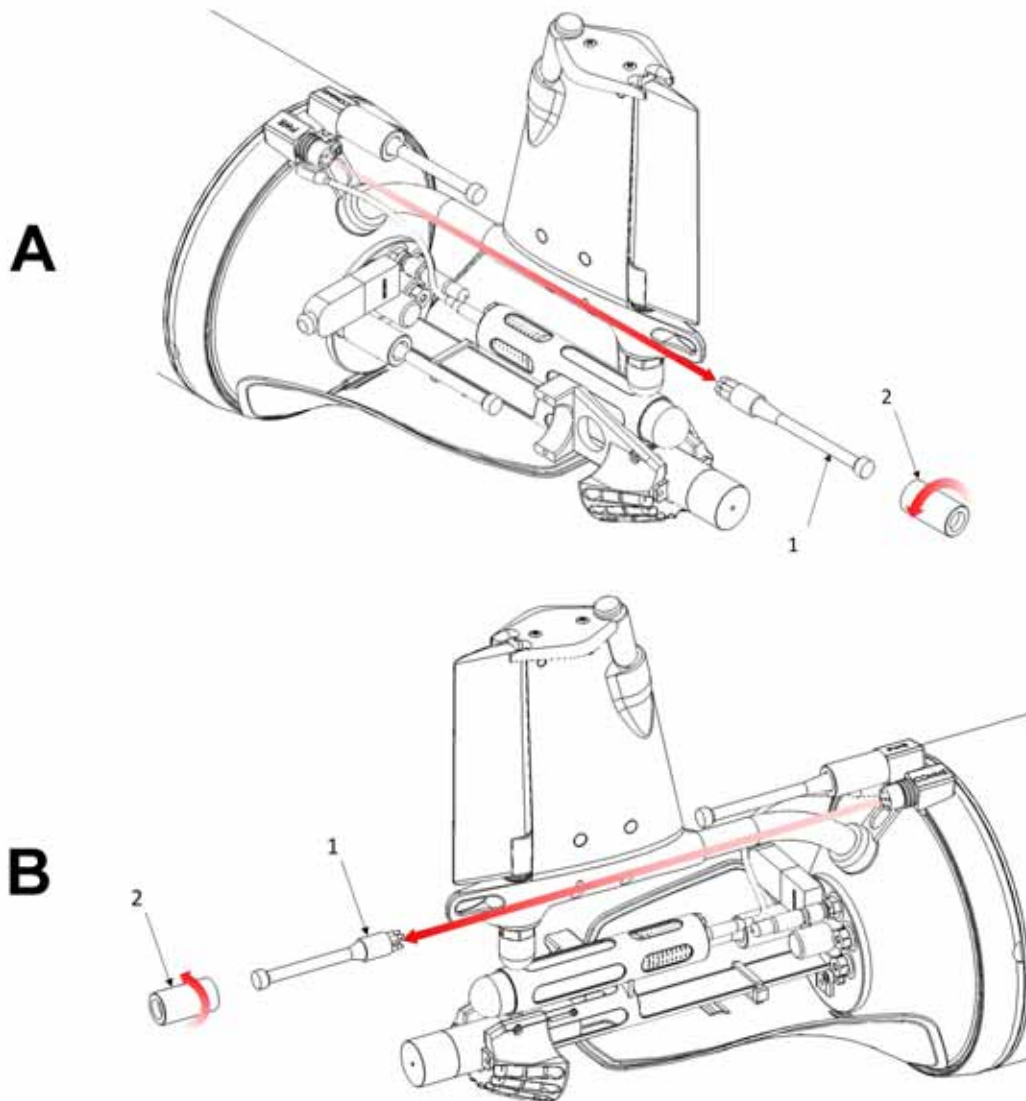

Figure 2-22 Stop plug (red), Go plug (green) and Comms. plug.
1. Unscrew the shell (Figure 2-22 A, Item 2) that holds in the Stop Plug (Red) or the Go Plug (Green).
2. Pull firmly on the Stop Plug (Red) or the Go Plug (Green) (Figure 2-22 A, Item 1).
1. Before installing the Stop plug (red) or the Go plug (green) (Figure 2-22 A, Item 1), ensure that the pins are not bent.
3. Screw in the shell (Figure 2-22 A, Item 2) that holds in the Stop Plug (Red) or the Go Plug (Green).
1. Unscrew the shell (Figure 2-22 B, Item 2) that holds in the direct comms dummy plug.
2. Pull firmly on the direct comms plug dummy (Figure 2-22 B, Item 1).
1. Before installing the direct comms plug or direct comms dummy plug (Figure 2-22 B, Item 1) ensure that the pins are not bent.
3. Screw in the shell (Figure 2-22 B, Item 2) that holds in the direct comms plug or direct comms dummy plug.